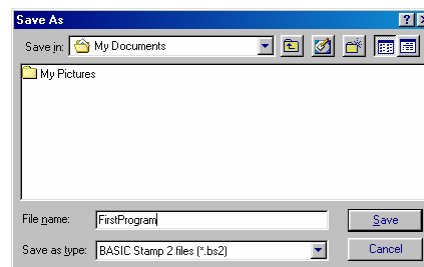

Figure 1-38: Entering the File Name
- ✓ Enter the name *FirstProgram* into the *File name* field near the bottom of the *Save As* window as shown in Figure 1-38.